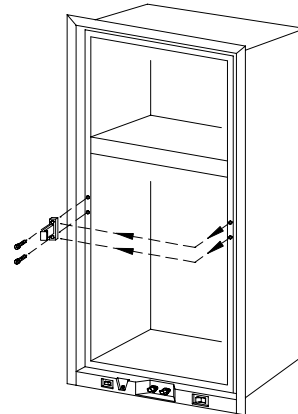

Figure 16
8. Remove both travel latches by taking out the two screws holding each to the refrigerator. Use the #2 Phillips screwdriver. Remove the two screws from each of the corresponding holes on the opposite side of the refrigerator. Relocate them in the two holes just exposed by the removal of the latches. Attach the latch in the new position so the tab points towards the opposite side of the refrigerator. Do not tighten screws completely. (See Figure 16)